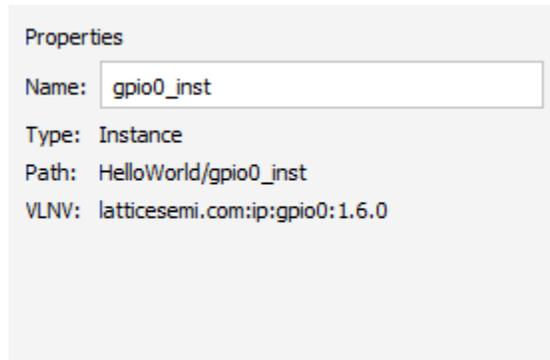

Figure 2.50. Object Properties
- Select the object from the List view of Design View. Information of the selected object is shown in the Properties area (Figure 2.50).